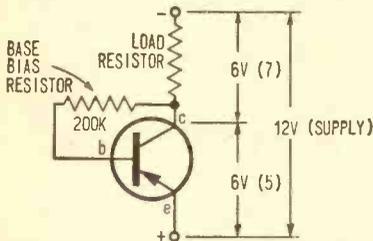

Fig. 7. In self-bias configuration, bias resistor connects directly to collector. Result is that transistor has less gain but added thermal protection.
**Self-Bias.** Note in Fig. 7 that the bias resistor now connects directly to the collector, not to the negative battery source. Voltage picked off the collector, however, is still negative and thus energizes the base, as before. The advantage of direct collector connection is that bias now responds to collector current flow. If the transistor becomes hot, collector current will rise with it. But as this current rises, *collector voltage simultaneously drops*. This happens since more current is
Notice that in Fig. 7 the 200 K bias resistor is only half the resistance value of that used in the earlier circuit. That's because it is tapping voltage from the collector, not the power supply. Since this source provides only half the 12 volts from the power supply, the resistor must also be reduced to keep bias current at the specified 30 microamperes.